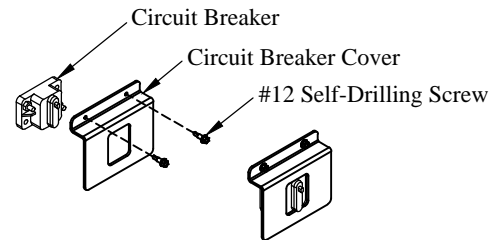

Figure 17: Circuit breaker cover.
16. **Install** the plastic circuit breaker cover over the circuit breaker using the supplied #12 self-drilling screws (Figure 17).